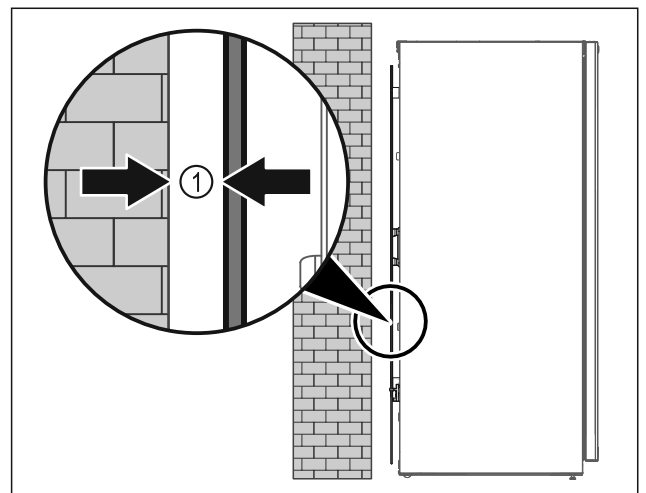

Fig. 7
- ▶ Set up the appliance either free-standing or directly against a wall at a minimum distance of 5 mm Fig. 7 (1).